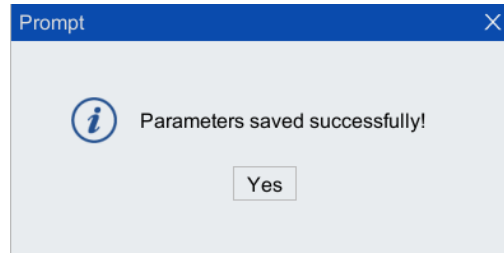

Figure 4-22 Save successful prompt box
Step 8. Click <Yes> in the pop-up dialog box of successful parameter saving. As shown in Figure 4-22. Power off and restart the control cabinet, and the parameter configuration takes effect.